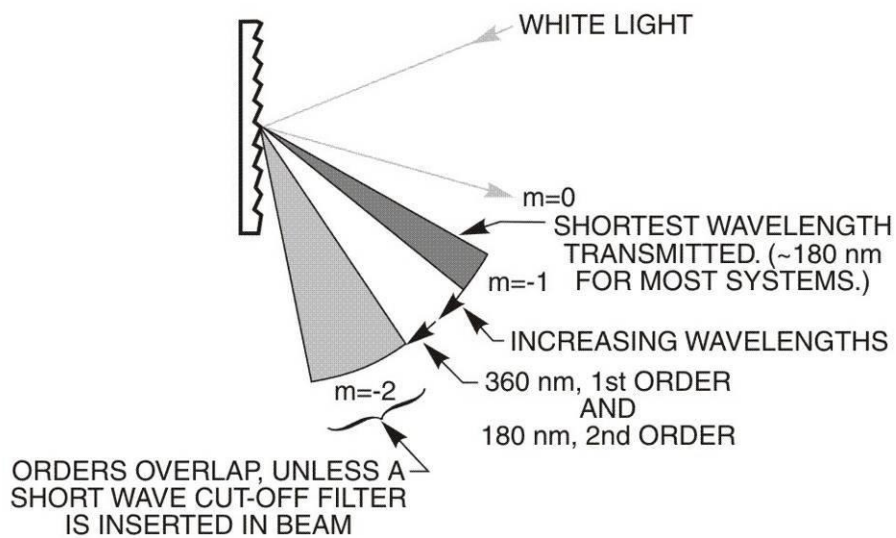

Figure 25: Diffraction Orders
Gratings have the property of dispersing light into a series of orders (See Figure 25). The zero order is simply reflected light, and zero order light defines the zero degree grating angle in a monochromator. The phenomenon of multiple orders can be an advantage since the 2nd order has twice the dispersion of the first order, and so on. But it also has disadvantages, mainly the lack of efficiency in higher orders. For example, if light with a wavelength of 600 nm is dispersed by a grating at a diffraction angle of say 15° then so is a small fraction of light of wavelength 300 nm (the 2nd order), and also 200 nm (the 3rd order). These different wavelengths will all be focused onto the same location at the exit of the monochromator, and hence be recorded erroneously as 600 nm light by a detector. Diffraction orders are an overlapping of orders.
**NOTE:** negative orders are defined as orders, which are at angles exceeding that of the zero order. Positive orders are not shown for clarity in Figure 25.